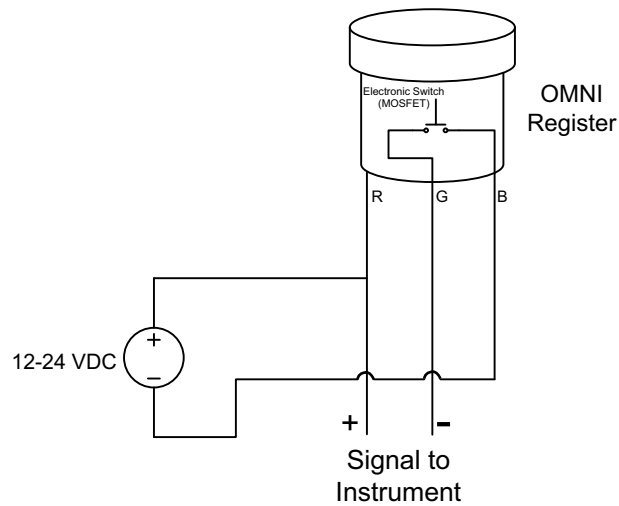

Figure 2-1: Dry Contact
The OMNI register can be configured in four arrangements, shown in Figures 2-1 through 2-4 below.
Figure 2-1 is used when the OMNI is connected to a PLC (e.g., in a SCADA system). The PLC **should not have** an internal pull-up resistor in its input circuit (no DC voltage at the instrument inputs). Usually the instrument must be isolated by having an optical isolator at its inputs.
*In case the instrument's input provides optical isolation, the connection shown in Figure 2-1 should be used.